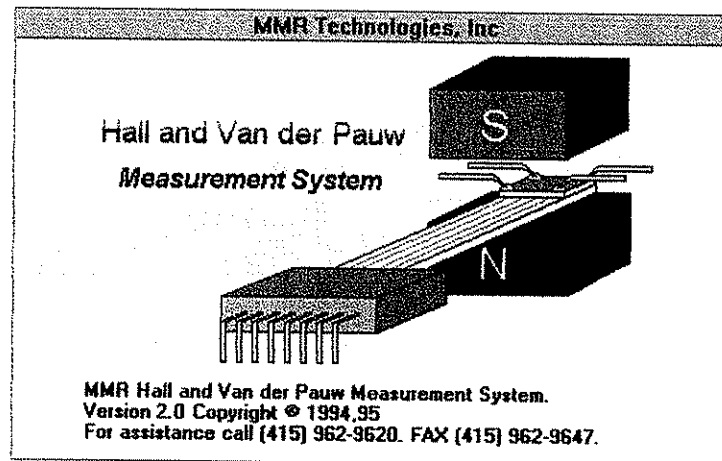

Fig. 4. Program introduction window.
- 6.3. The System introduction window will come up, as shown in Fig. 4.